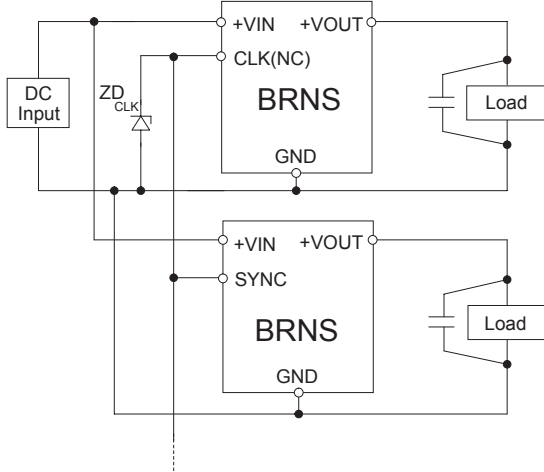

Fig.3.12 Example of CLK pin connection.
■As shown in Fig.3.12, frequency synchronization is possible without using an outside clock.